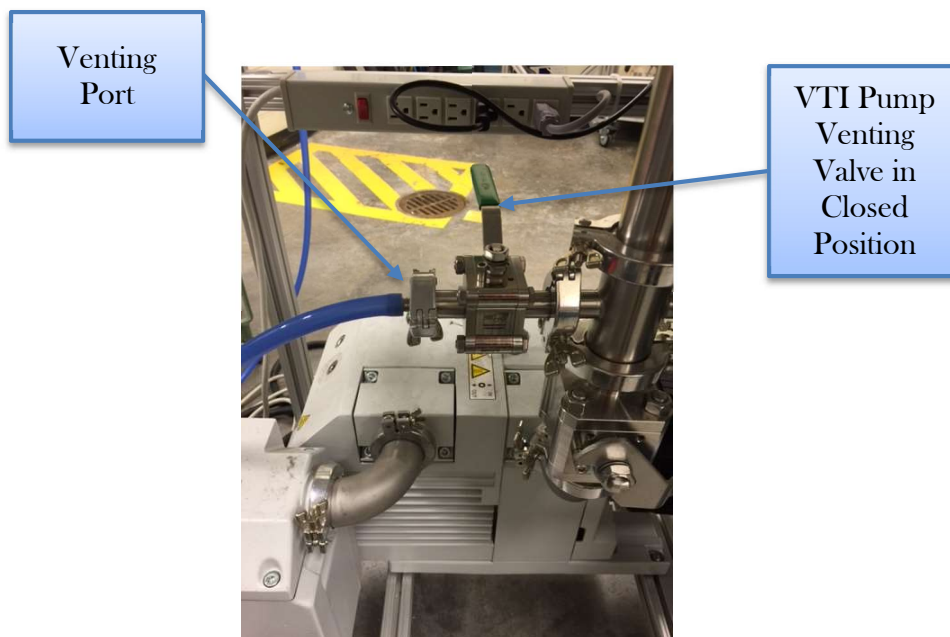

Figure 4
- 1.5 With the helium gas cylinder regulator set to approximately 1-2 psi, connect a helium gas cylinder to the VTI pump venting port (Figure 4).
1.8 Close VTI pump venting valve (Figure 4).
- 1.25 Close VTI pump venting valve (Figure 4).